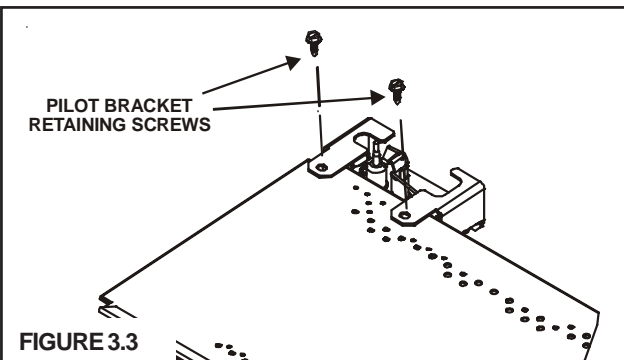

FIGURE 3.3
- Unscrew the brackets at both ends of the burner and the top two screws locating the pilot bracket (see Figure 3.3). Slide the burner away from the burner orifice.